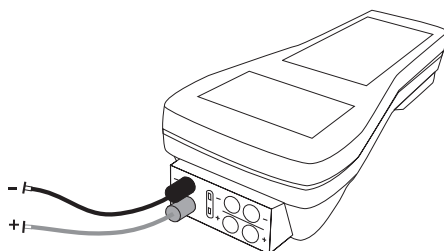

Figure 16. Isolated Input Connection
2. Select the desired primary parameter to be measured. Connect the leads to the isolated inputs of the calibrator, as in Figure 16.